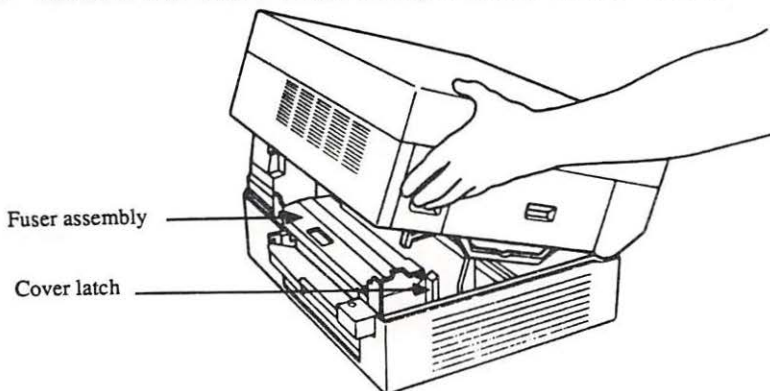
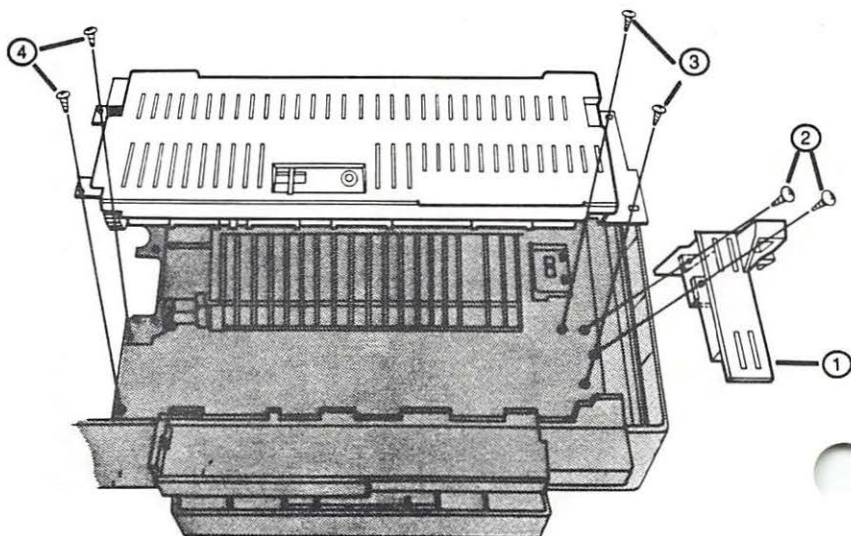

FIGURE 2-19
FIGURE 2-20
The Fuser Assembly (see Figure 2-19) consists mainly of two rollers and a heater bulb. The combination of heat and pressure provided by this assembly fuses the toner onto the paper. The assembly also contains two sensors (the thermistor and the thermoprotector) which allow the printer to regulate the temperature of the rollers.
2. Locate the cover latch unit (a grey plastic piece at the front end of the assembly -- see Figure 2-19 and Figure 2-20, #1). Remove the two black screws at the base of the cover latch unit (see Figure 2-20, #2) and lift the unit out of the printer.
3. Remove the two black screws at the front end of the fuser assembly (see Figure 2-20, #3).
6. Remove the two screws from the brass-colored tabs at the rear end of the fuser assembly (see Figure 2-20, #4).